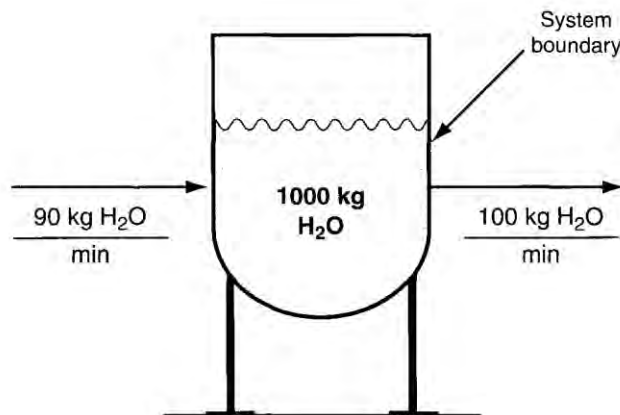

Figure 6.5 Initial conditions for an unsteady–state process with negative accumulation.
* Figures 6.5 and 6.6 demonstrate negative accumulation.